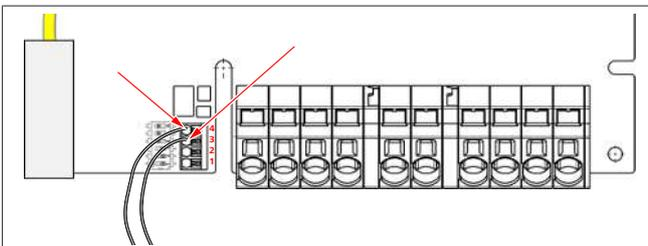

Fig. 9
The two cables from the ripple control receiver must be inserted into this connector in positions 3 and 4 (see Fig. 9). The two cables can be assigned to pos. 3 and 4 in any order. (max. cable cross section 1.5 mm²).